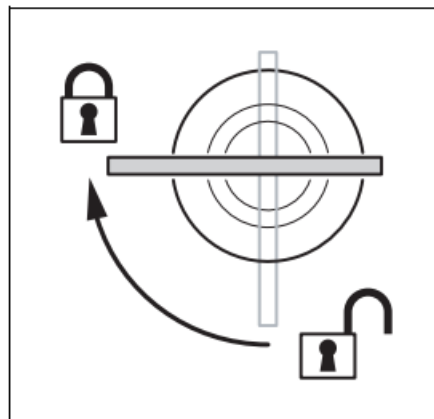

Figure 2: Locking a quarter-turn fastener
1. Install a rigging clamp on an omega clamp attachment bracket, then fasten the omega bracket to the fixture using the quarter-turn mounting points on the rear panel (see Figure 1 on page 6). Ensure that quarter-turn fasteners are turned a full 90° clockwise to lock them (see Figure 2).